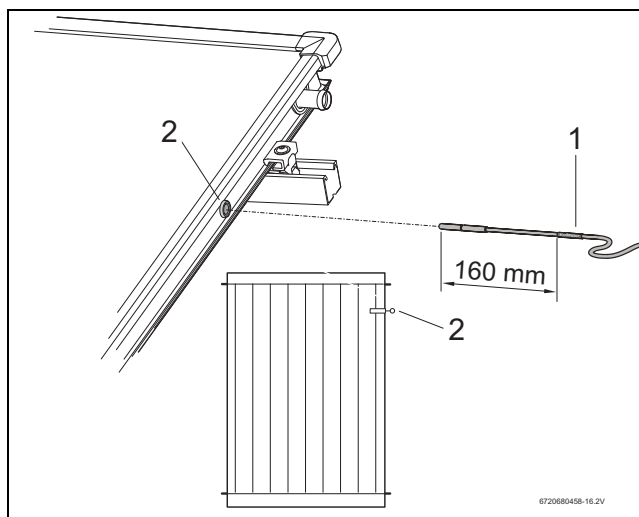

Fig. 46 Push the collector probe into the collector
To guarantee optimum performance of the solar installation, the collector probe (Fig. 46, [1]) must be pushed until it fully touches the probe guide pipe (corresponding to approx. 160 mm).
- Drill a hole in the lining layer with the probe collector or with a screwdriver (Fig. 46, [2]).
If a hole has been drilled into the probe passage (Fig. 46, [2]) of a wrong collector, it should be sealed with a plug from the joining set.